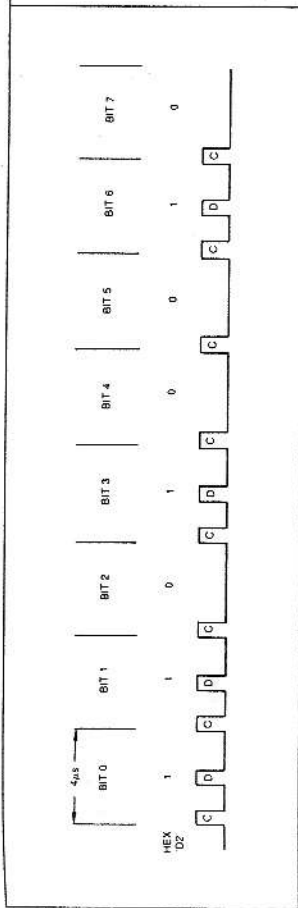

FIGURE 1. FM RECORDING.
The 1771 has been designed to be compatible with the IBM 3740 standard. This single-density Frequency Modulated (FM) recording technique, records a clock bit between a data bit serially on each track. Figure 1 illustrates how a HEX "D2" is recorded. Note that when the data bit to be written is zero, no pulse or flux transition is recorded. For the 8" drive, there are 77 tracks, with 26 sectors on each track. Each sector contains 128 bytes of data. Although there is no "standard" format for the mini-floppy, most manufacturers utilize either 35 or 40 tracks per side, with 16 sectors of 128 bytes each per track. Both the 8" and 5 1/4" formats must be soft-sectored, i.e., there are no physical holes to denote sector locations. The hard-sectored disk has been losing popularity, mainly due to the fact that the sector lengths cannot be increased.